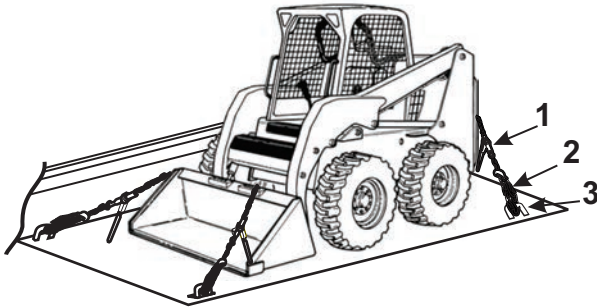

Figure 3-29 – Machine Tied Down to Trailer
6. Use the D rings (3, Figure 3-29) at each corner of the trailer to secure the machine to the trailer using the proper DOT approved tie down chains (2, Figure 3-29) and binders (1, Figure 3-29).